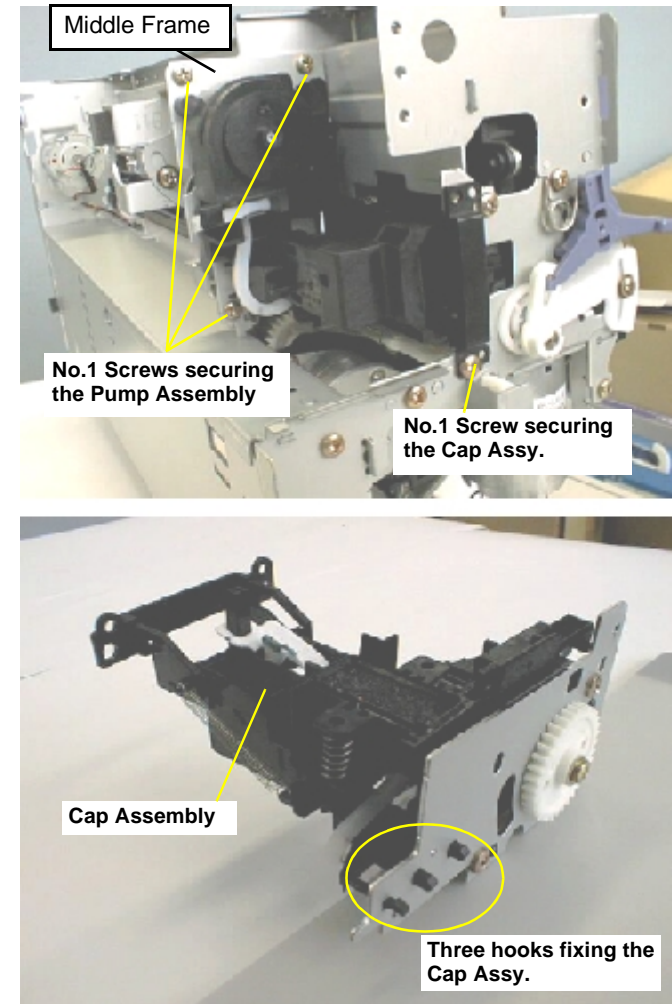

Figure 4-14. Removing the Pump Assembly & Cap Assembly
Then, from the Right Frame, remove one screw (No.1) securing the Cap Assembly in the Ink System Assembly. Refer to Figure 4-14.
- 7) Release three hooks fixing the Cap Assembly to the Metal plate for Ink System Assembly and remove the Cap Assembly. Refer to Figure 4-14.
- After setting the three protrusions of Cap Assembly to the suitable fixing holes of the metal plate, secure the Ink System Assembly to the Middle Frame with the screws. See Figure 4-14.